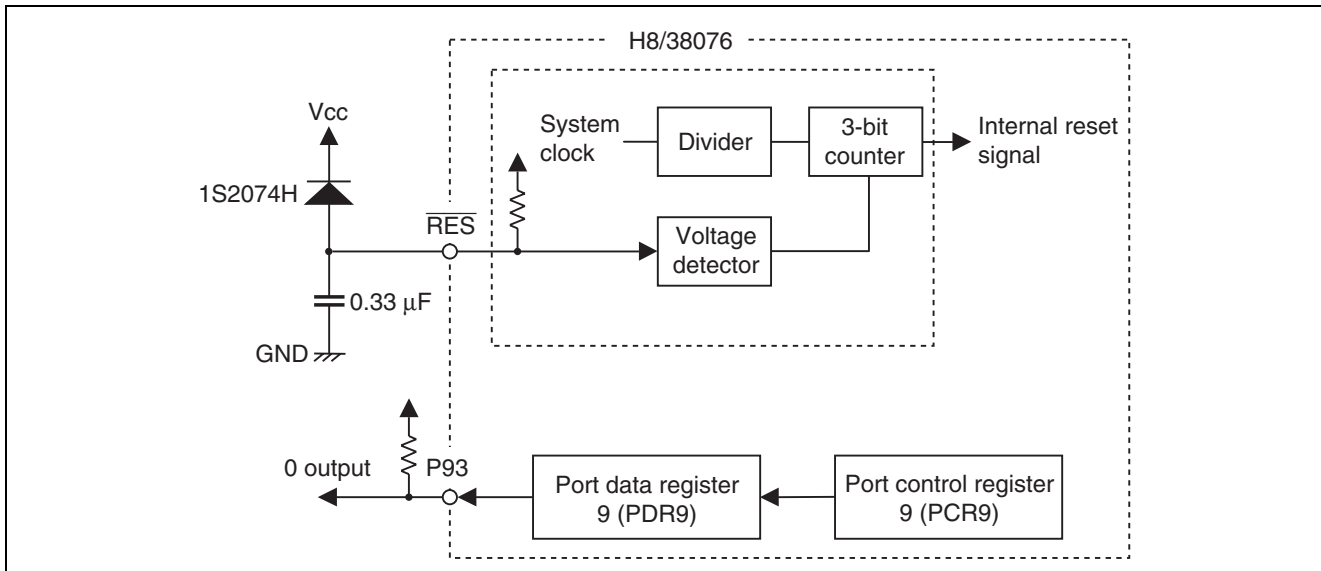

Figure 2 Block Diagram of Internal Power-On Reset Circuit
- This sample task uses the internal reset circuit of the H8/38076 to perform a power-on reset. Figure 2 is a block diagram of the internal power-on reset circuit. The block diagram of the internal power-on reset circuit is described below.